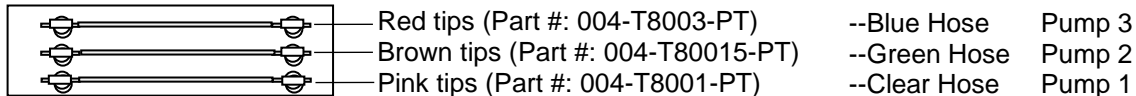

Figure 17
- A. Locate the three 1/4" (7mm) hoses colored clear, blue, and green. The pumps will need to be connected to specific tips (figure 17 and 18) so the pump numbers are as follows: Pump 1 is closest to the filter bowl, pump 2 is in the middle, and pump 3 is the outside pump.